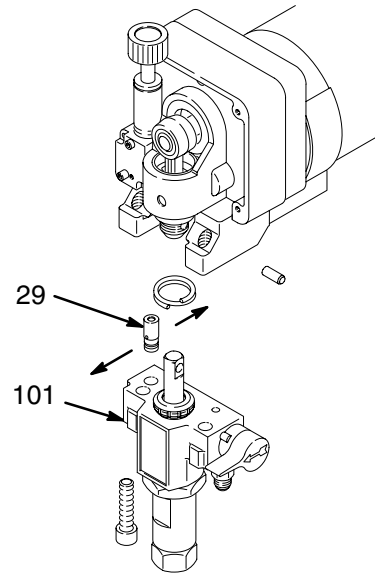

Fig. 25
- Align the holes in the transducer as shown by the arrows in Fig. 25.
NOTE: See Fig. 25 for this procedure.